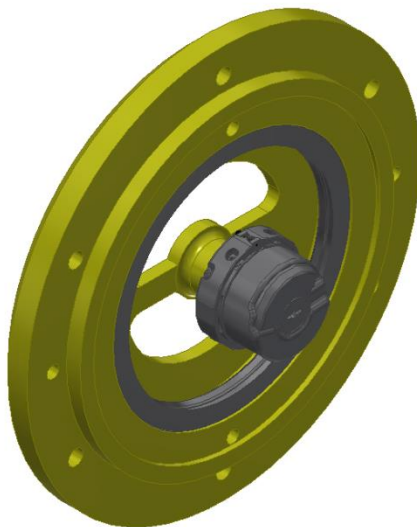

Figure 21
7. Remove encoder mounting plate and attached encoder. See Figure 21.